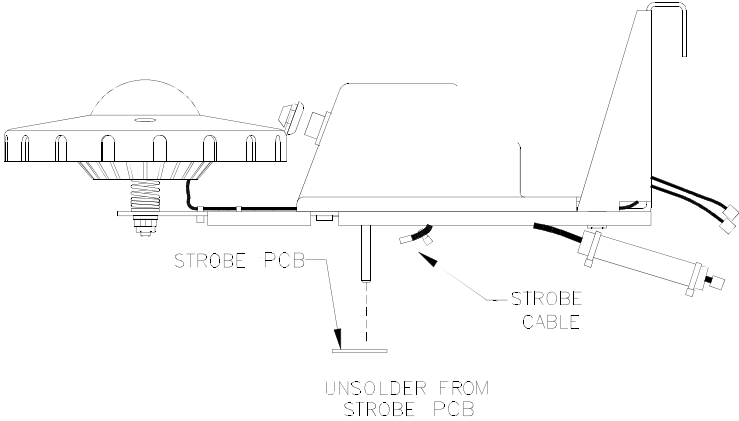

FIGURE 14
4. Unsolder the Saucer Cable (p/n AFM-CBL-SUCRCBL) from the Strobe PCB (p/n AFM-PCB-STROBE) (See Fig.14)